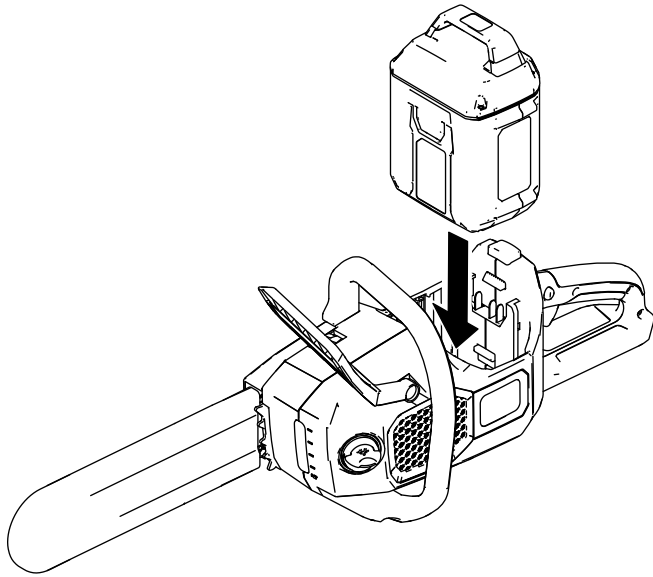

Figure 22
2. Align the tongue of the battery pack with the battery cavity in the chain saw (Figure 22).